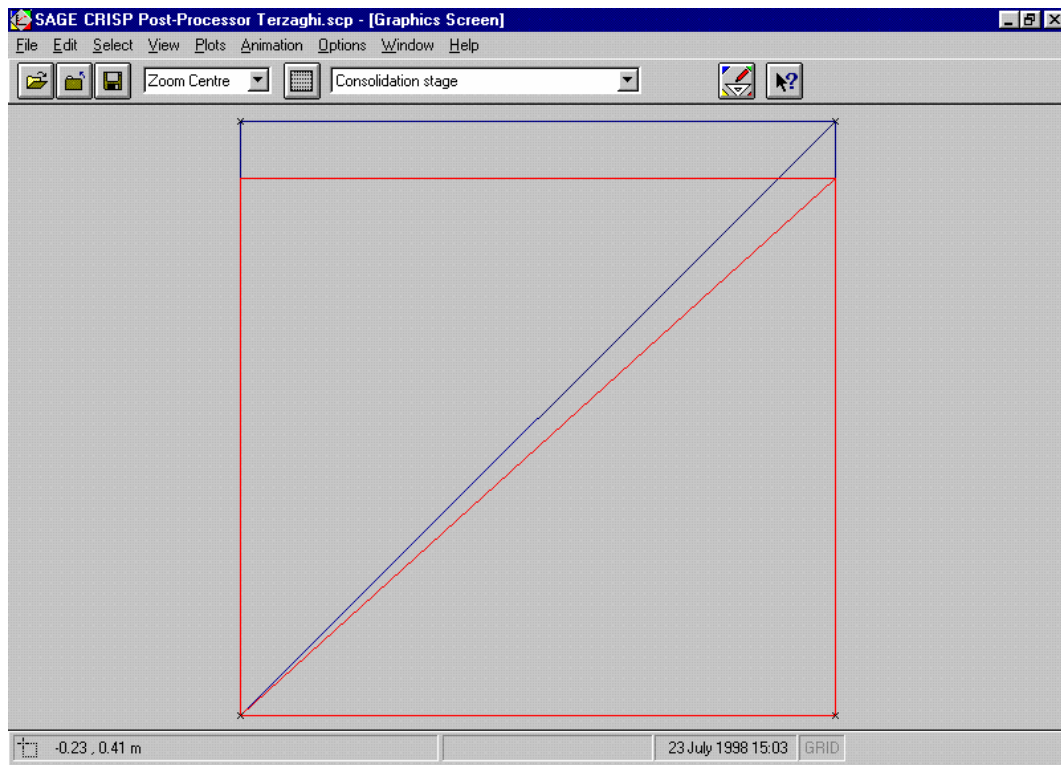

Figure 2-20: Deformed Mesh After Full Consolidation
- Step 6** Click on **OK** to exit once you have finished. The plot will be displayed on the Graphics Window similar to Figure 2-20.